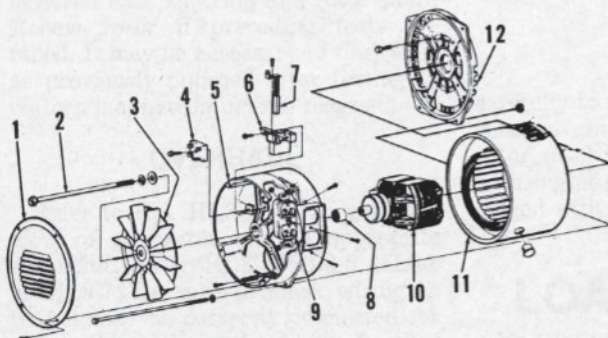

Fig. HL4-1—Exploded view of generator.
BRUSHES. Brush length and condition should be checked after every 1000 hours of operation. Brushes can be inspected after removing brush head cover (1—Fig. HL4-1), rotor bolt (2) and fan (3).
DISASSEMBLY AND REASSEMBLY. Refer to Fig. HL4-1 for an exploded view of generator and to appropriate schematic. Be sure to mark wiring so that it may be correctly connected for reassembly. Wire should be handled carefully to prevent damage to wire, insulation or connections. Generator rotor (10) has a taper fit with engine crankshaft, and should be removed with a suitable tool.